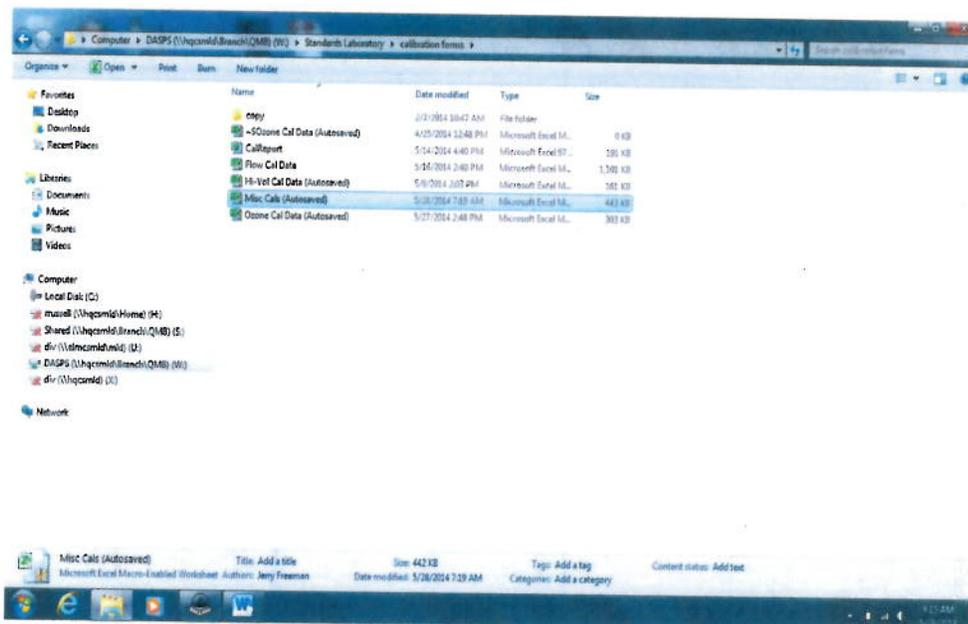

Figure 8
11.8 Double-Click on the “Misc Cal “workbook. See Figure 8.